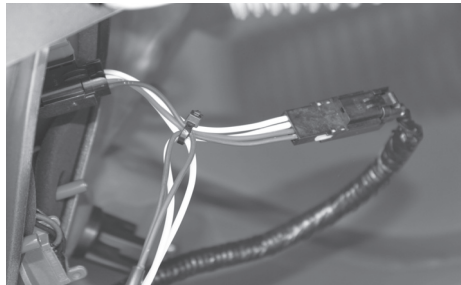

Figure 4
4. Starting on driver's side route RV harness with connectors containing Yellow wires behind felt liner to taillight location. Separate vehicle connector and position connectors between separated vehicle harness connectors. Press connectors firmly into vehicle connectors until they lock into place shown in Figure 4. Pull on connectors to ensure the locks are engaged.